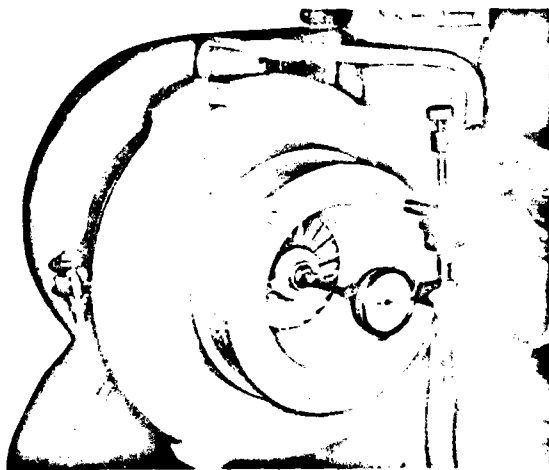

Fig. 2-66, (N11956). Checking turbocharger bearing and clearance
Check bearing clearances. This can be done without removing the turbocharger from the engine, by using a dial indicator to indicate the end-play of the rotor shaft and a feeler gauge to indicate the radial clearance. Fig. 2-66.
2. Remove one capscrew from the front plate (compressor wheel end) and replace it with a long capscrew. Attach an indicator to the long capscrew and register the indicator point on the end of the rotor shaft. Push the shaft from end-to-end making note of the total indicator reading. Fig. 2-66. On T-50, ST-50 and VT-50 the end clearance should be 0.006 to 0.018 inch [0.15 to 0.46 mm].